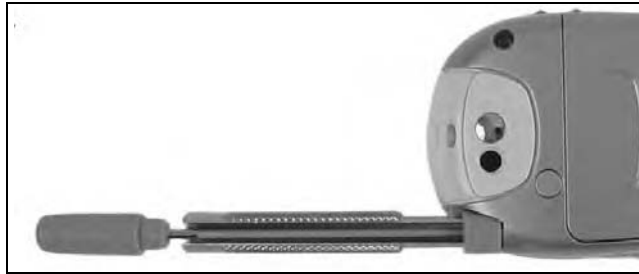

Figure 7-2.
2. Extend antenna shaft to align with antenna tool. See Figure 7-2.